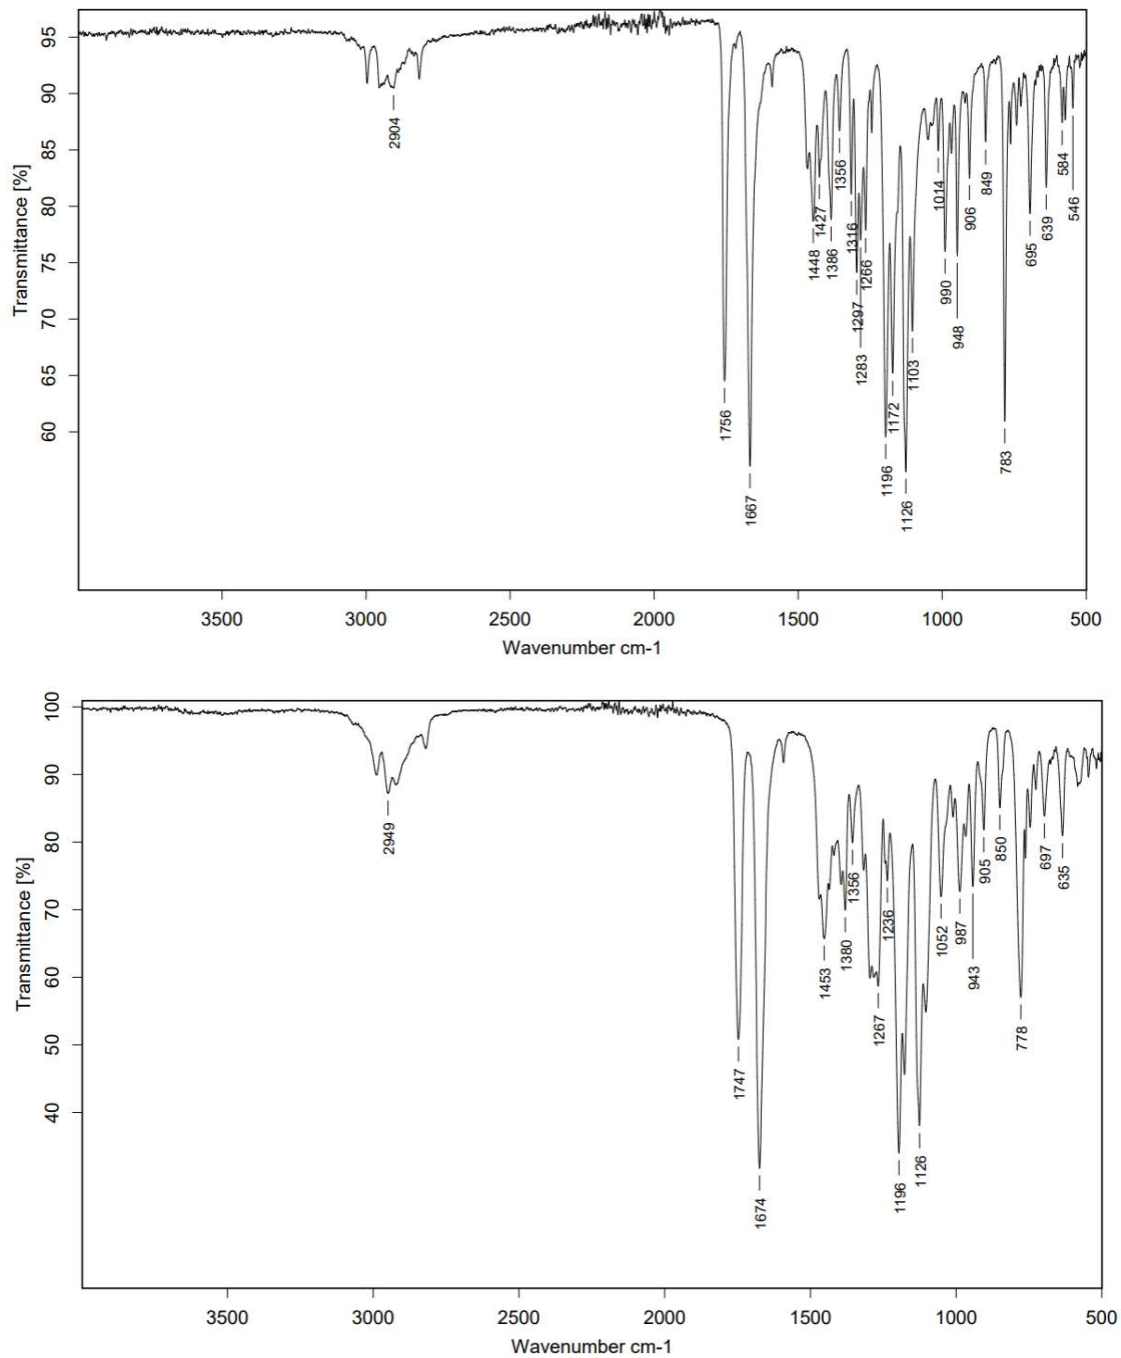

Fig. 1 Typical IR spectrum of Metalaxyl (upper) and Metalaxyl-M tech. (lower) according to xxx/TC/M/2.1
2.1 Infrared As for Metalaxyl technical YYY/TC/(M)/2.1 and Fig 1.
- 2.1 **Infrared.** As for Metalaxyl technical YYY/TC/(M)/2.1 and Fig 1.